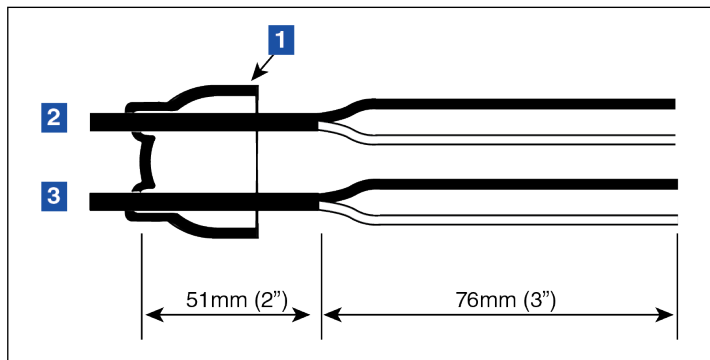

Figure 37. Cable Length Dimensions
1. Cut the soft vinyl epoxy enclosure end cap entrance holes to accommodate each cable diameter. Keep the hole sizes to a minimum. Insert about 127mm (5") of the 1.5m (5') cable provided in the Transmitter installation hardware kit and the device's cable through the openings [Figure 37]. The 1.5m (5') cable provided in the kit will already have 76mm (3") of the outer jacket removed from the end to insert through the openings, while the other end to connect to the Transmitter will already have 38mm (1.5") of the outer jacket removed. Remove 76mm (3") of the outer jacket from the device's cable. Trim the insulation from the conductors. The 1.5m (5') cable provided in the Transmitter Installation Hardware kit will be connected to the Transmitter.
LEGEND FOR NUMBERED BOXES IN Figure 37